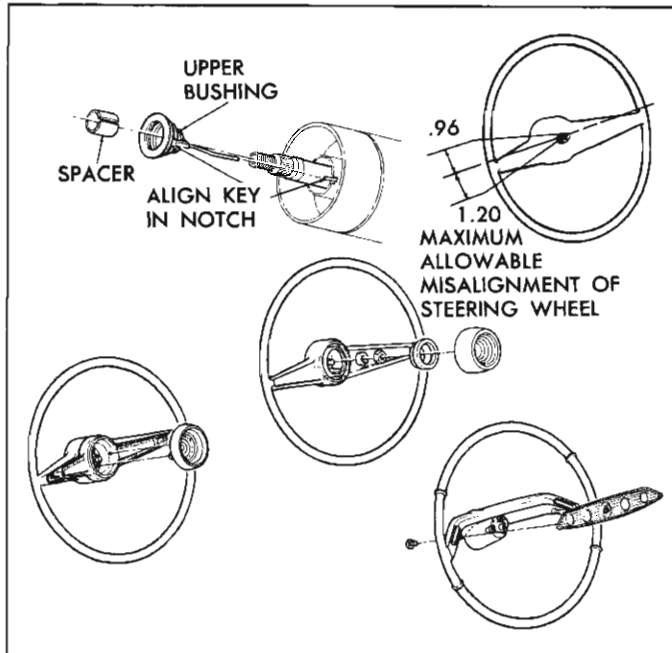

Fig. 40—Steering Wheel Installation
5. Install steering wheel spacer, horn bushing and steering wheel, aligning mark on steering shaft with mark on wheel hub. Torque steering wheel nut to 35-40 ft. lbs. (fig. 40).